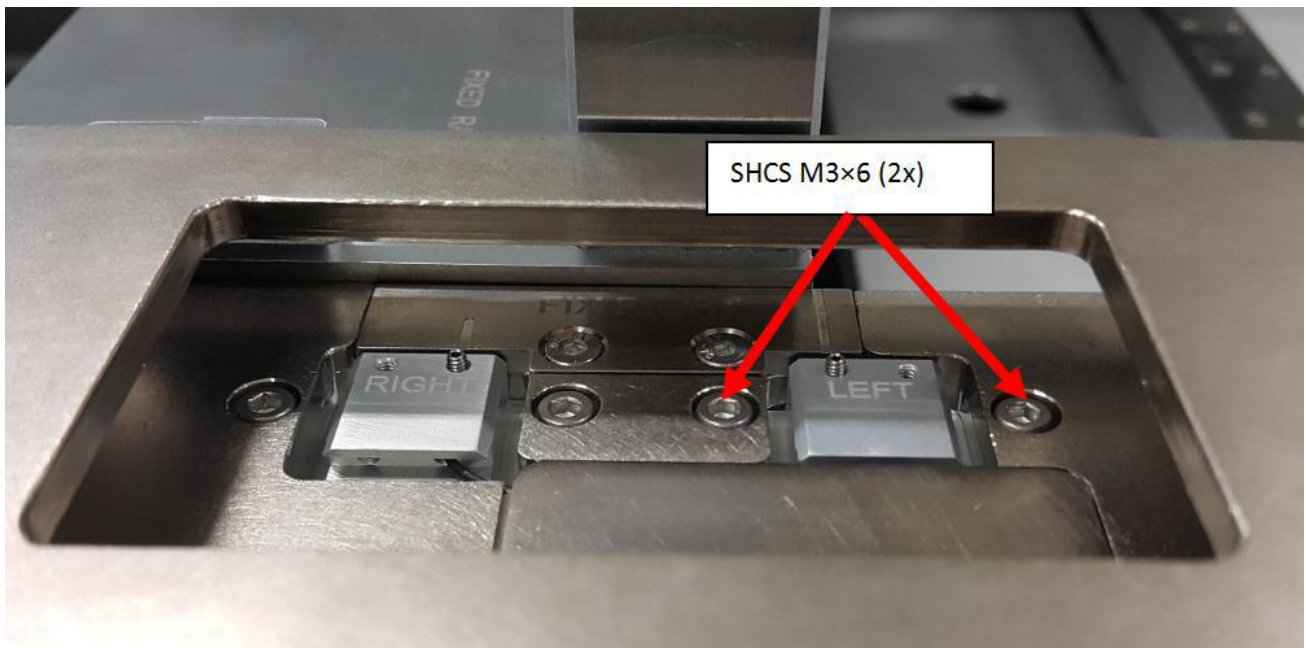

Figure 26 SHCS M3x6 (2x)
4. Tighten back SHCS M3×6 (2x) as shown in Figure 26.